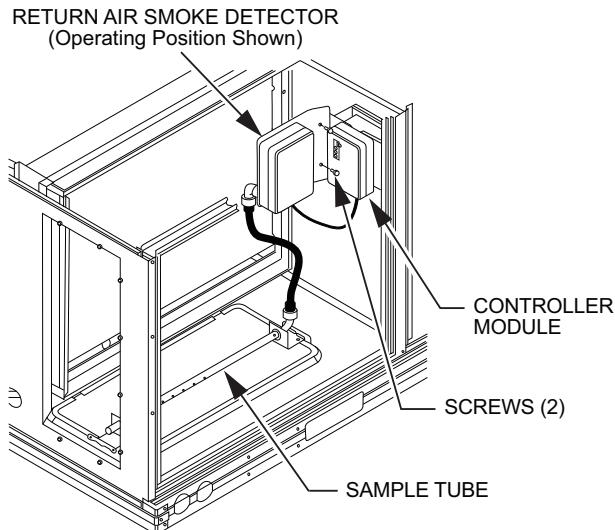

Fig. 41 — Return Air Smoke Detector Operating Position
3. Rotate the detector plate so the sensor is facing outwards and the sampling tube connection is on the bottom. See Fig. 41.